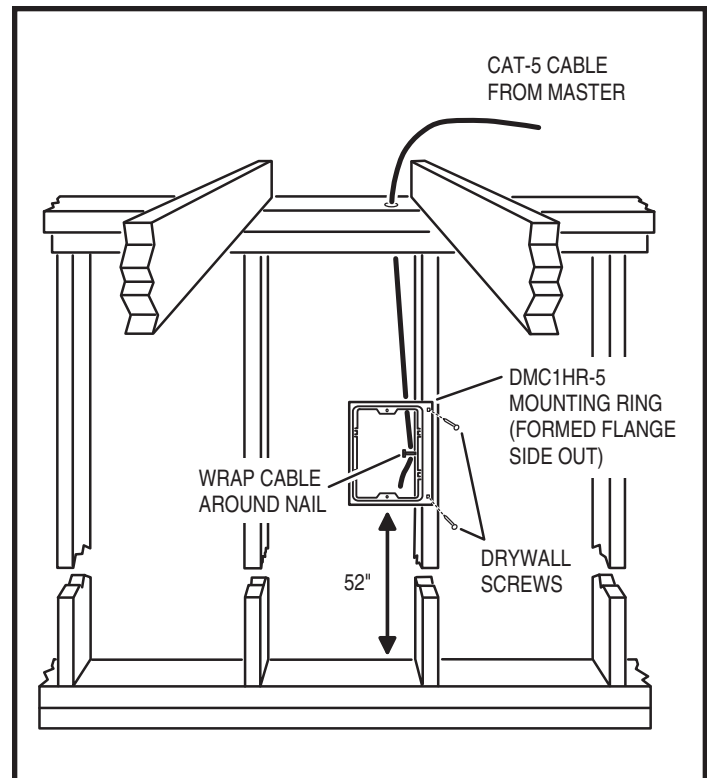

Figure 8. Room Station Rough-in
1. At each Room Station location, nail or screw a Model DMC1HR-5 Room Station Rough-in Ring about 52" above the floor level (see Figure 8).